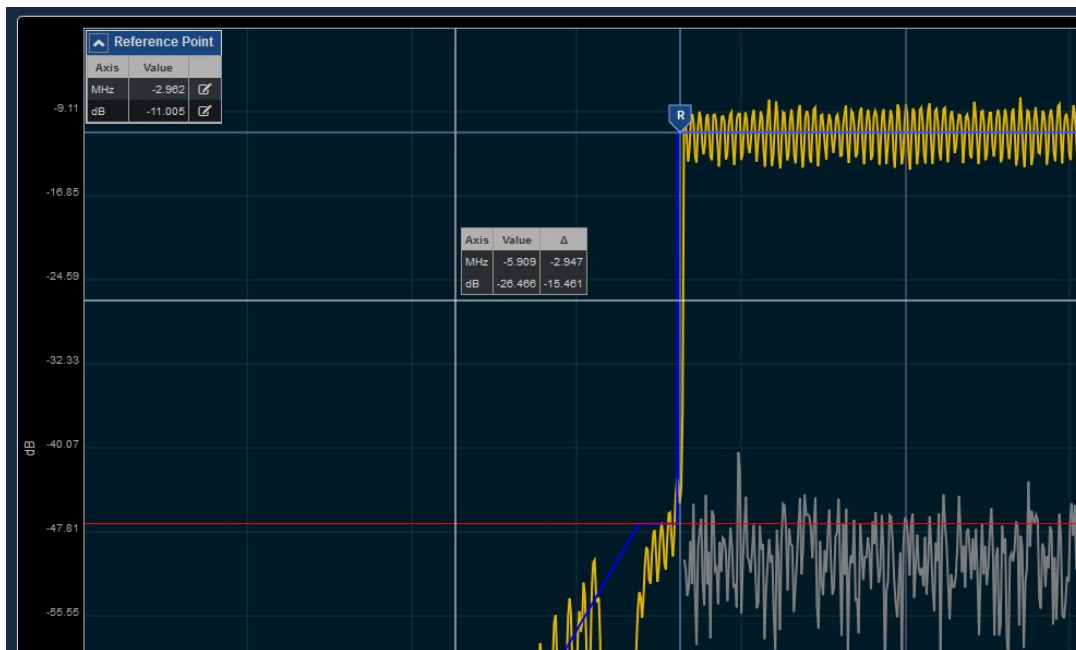

Figure 23. Cross Bar Tool
- “Cross bar” tool is useful for a quick relative measurement between any two points of the plot, see Figure 23.